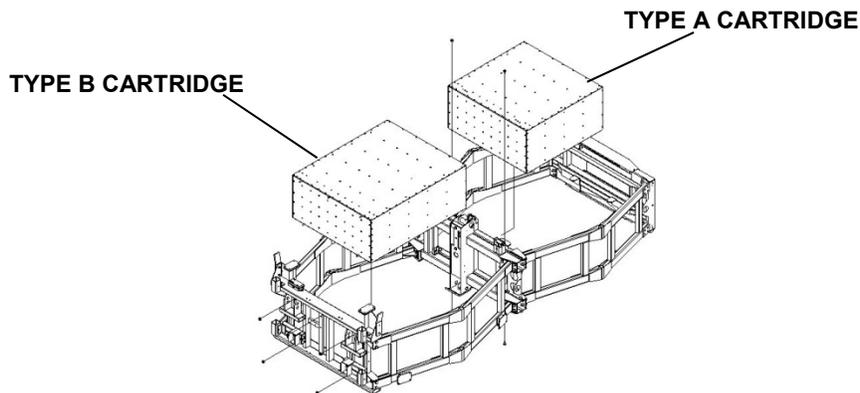

Figure 17
4) **Assemble Cartridges (p. 19, Figure 17)**